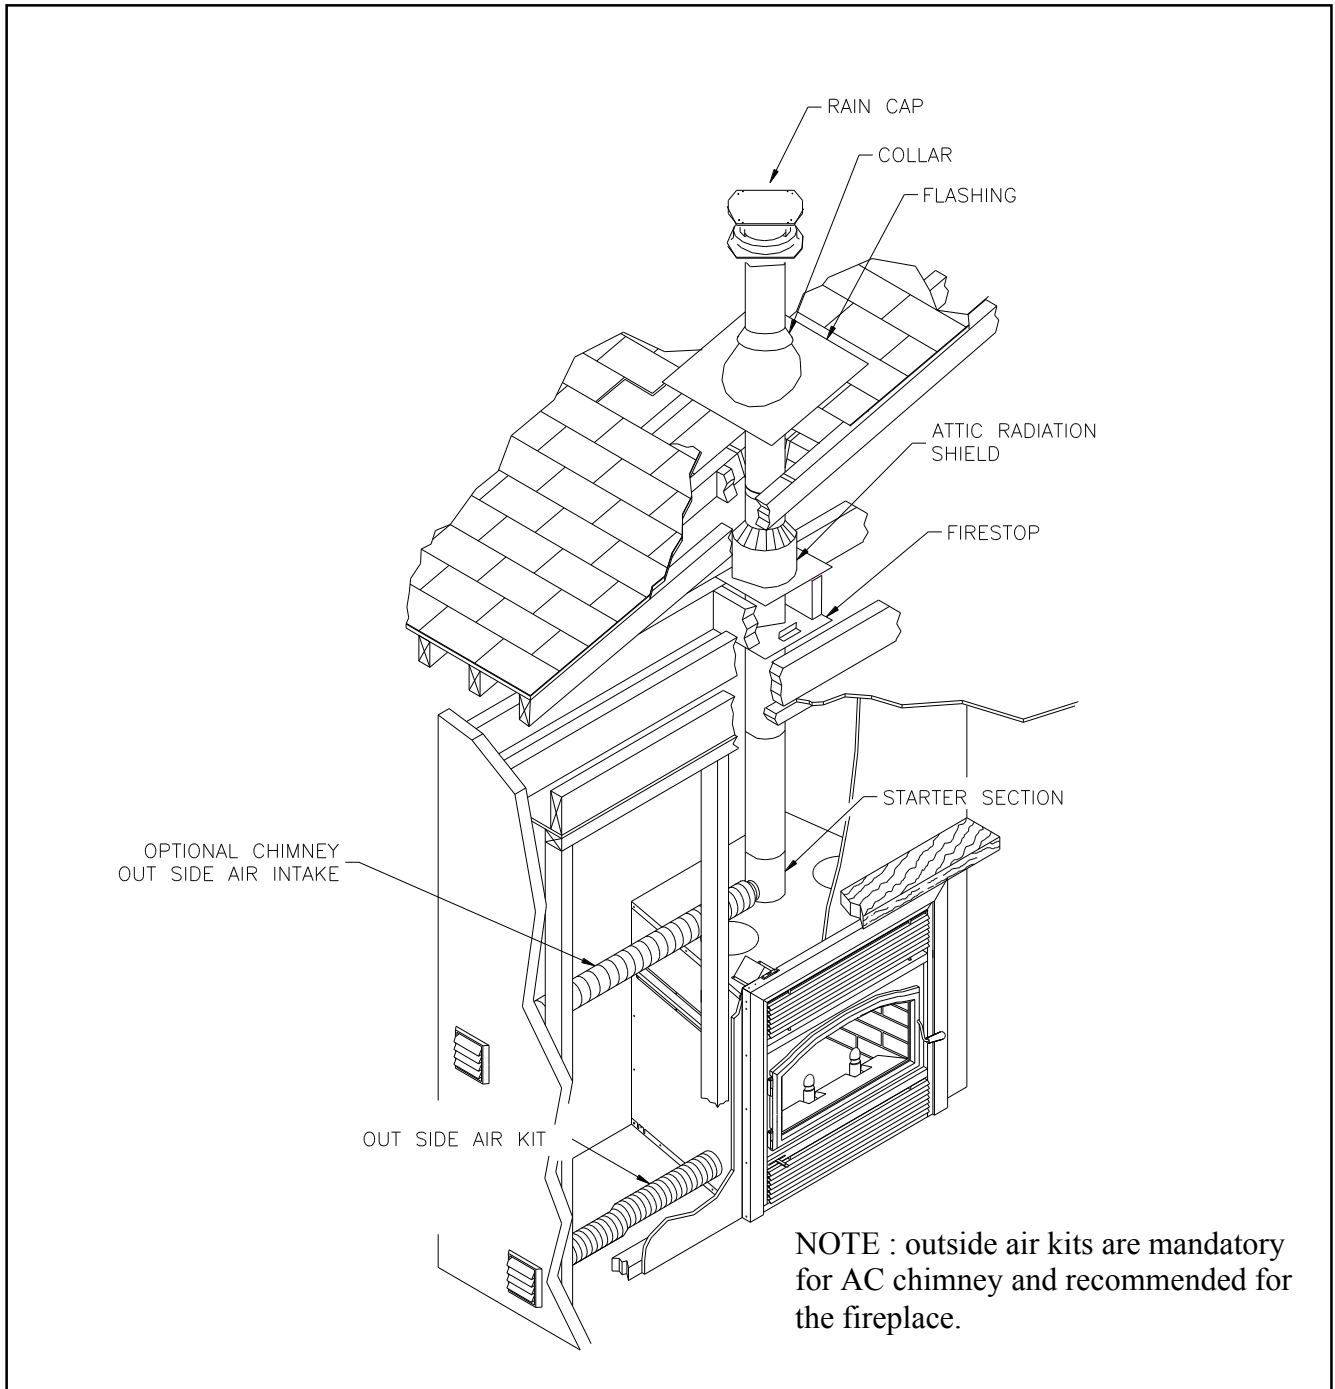

Figure 28
3. For ASHT+ / HT6103+ and S-2100+ / HT6000+ chimneys, place the first chimney length on the fireplace. To lock it in place, turn $\frac{1}{4}$ of a turn clockwise. With the AC chimney, you must use a starter section before installing the first chimney length (figure 28). Continue installing chimney lengths making sure to lock each length in place.